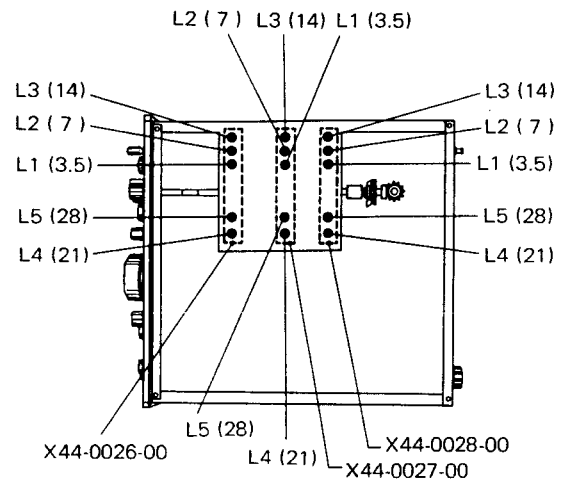

Fig. 4
1. Heterodyne crystal oscillator (Refer to Fig. 4)